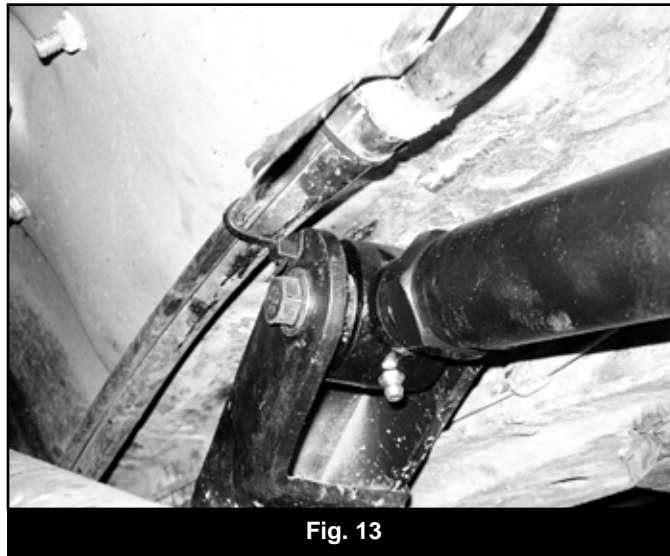

Fig. 13
31. Go back and check the clearance of all the lines running down the driver's side of the frame. Attach the plastic lines to the crossmember with the mount style wire tie (BP 715) by pushing the wire tie into the 1/4" hole in the upper control arm mount and securing the lines (Fig 13).